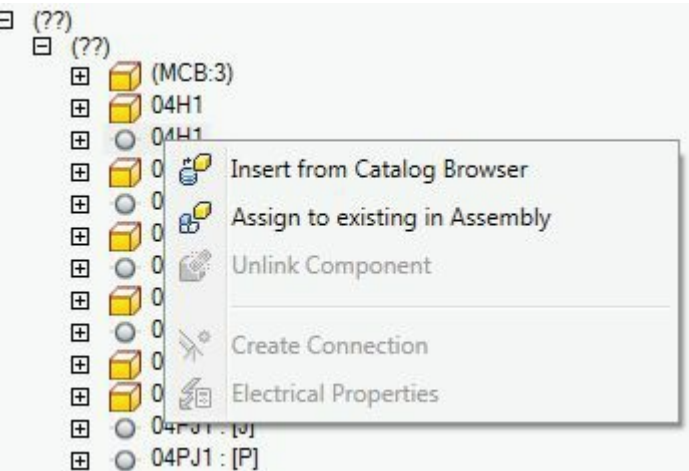

Figure-16. Shortcut menu for linking file
- To link the electrical component to the Autodesk Inventor component, right-click on the desired electrical only component. A shortcut menu will be displayed as shown in Figure-16.